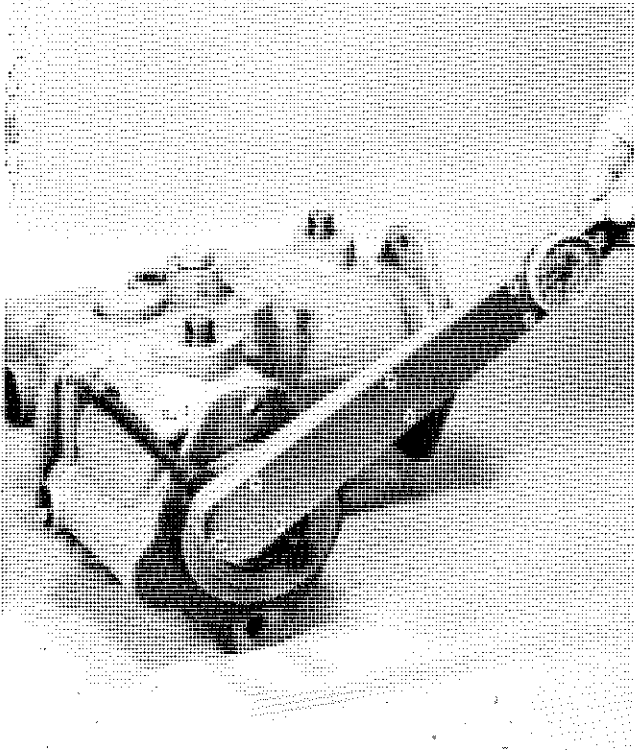

Figure VI-44. Torquing Transmission Housing Screws
- c. Torque eight housing screws at final assembly of pump, motor and valve plate to 42-45 ft. lbs. (5.8 to 6.2 Kg m) (Figure VI-44).